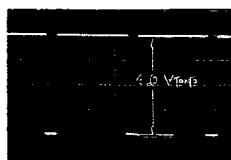

Fig. 2-2
- 2) Adjust R53 (HD LEVEL) so that a voltage of 4 Vp-p ± 0.2 V is obtained as shown in Fig. 2-2.